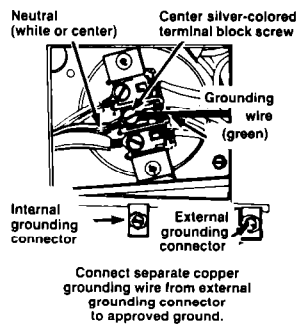

Figure 10
4. Connect the neutral wire of the flexible armored or non-metallic sheathed copper power supply cable to the center, silver-colored terminal screw of the terminal block. Connect the other wires to the outer terminals. See Figure 10. For plain-end wires, see "To connect plain wire ends," Panel F.